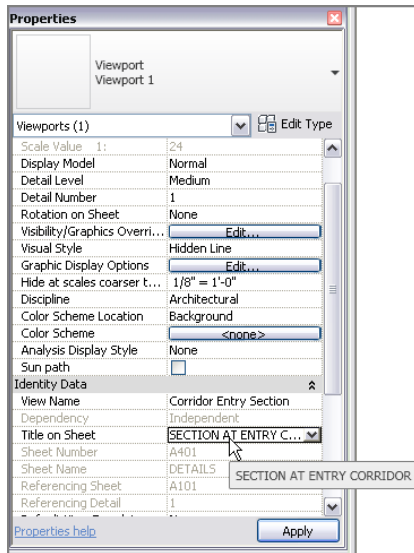

FIGURE 14.15: You can make the title on the sheet different from the view name.
3. In the Properties dialog box, scroll down the list until you arrive at Title On Sheet, as shown in Figure 14.15.